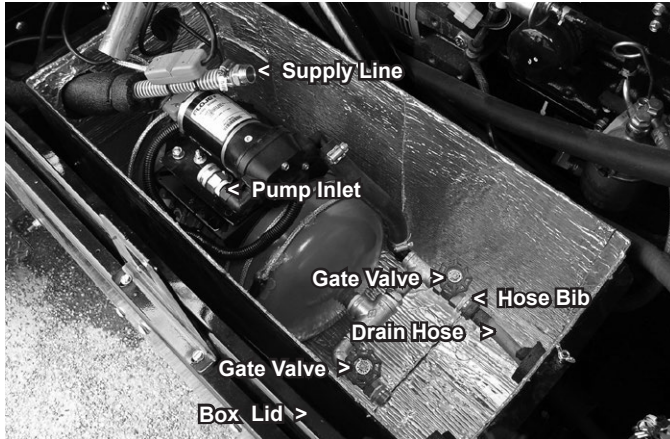

Figure B16
3. With the pump supply hose disconnected at the swivel, remove the poly plug and brass cap from the tank plumbing as shown in Figures B16 and B17. The water in the supply line will gravity flow out of the line.